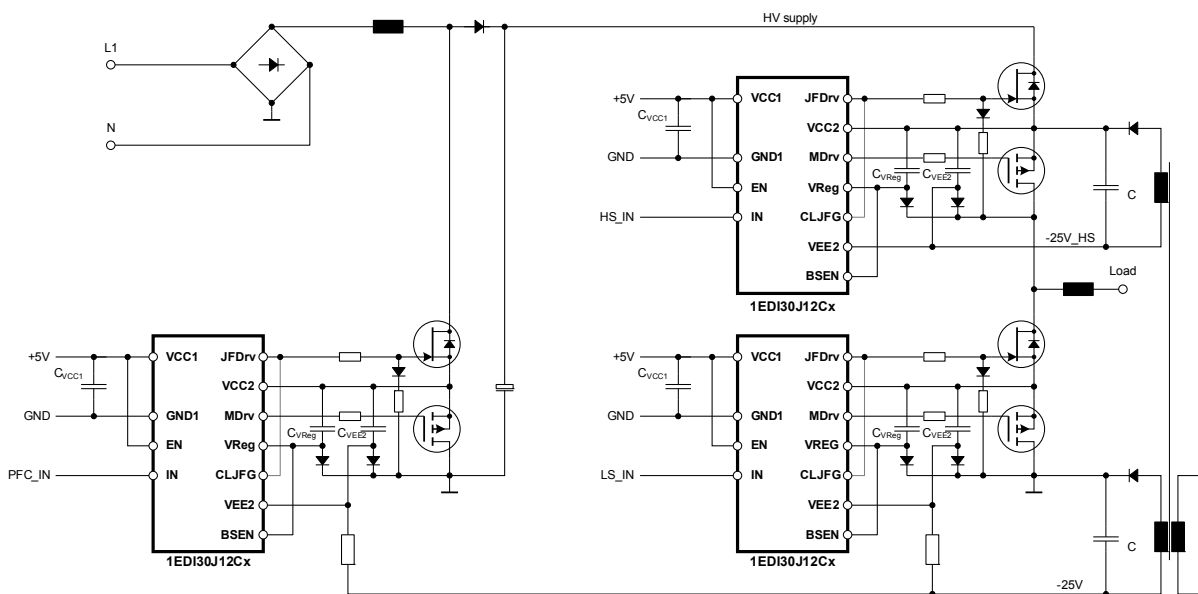

Figure 3 Application drawing for isolated supply (PFC+HB)
1. The external power supply is related to VCC2 (see Figure 3 high-side switch and Figure 10).
2. The external power supply is related to the MOSFET drain potential (see Figure 3 low-side switches and Figure 12).